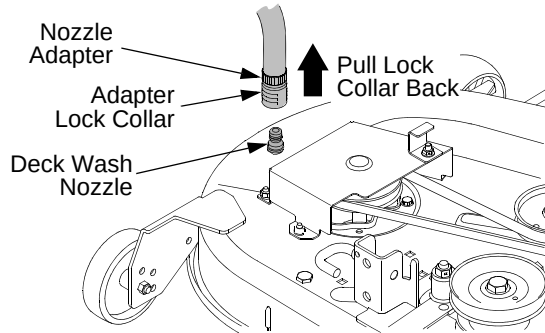

Figure 5-2
- Pull back the lock collar of the nozzle adapter and push the adapter onto one of the deck wash nozzles at either end of the mower deck. Release the lock collar to lock the adapter on the nozzle. See Figure 5-2.